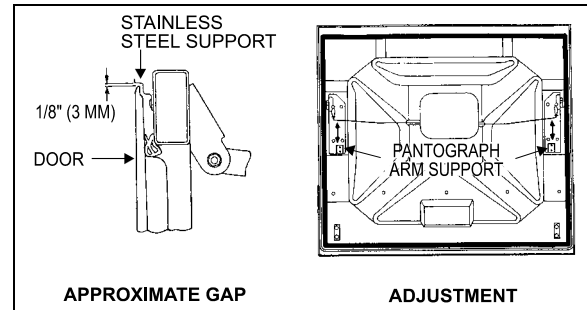

FIGURE 54: BAGGAGE COMPARTMENT DOOR 18064
1. Unscrew and remove both striker pins. Loosen bolts retaining door to pantograph and balance arm supports. With door closed, adjust height so the top of the door fits flush with the adjacent doors. Then, complete tightening the four bolts retaining door to each pantograph arm support. A gap of $1/8"$ (3 mm) between the top of the door and the stainless steel support is given as a guide (Fig. 54).